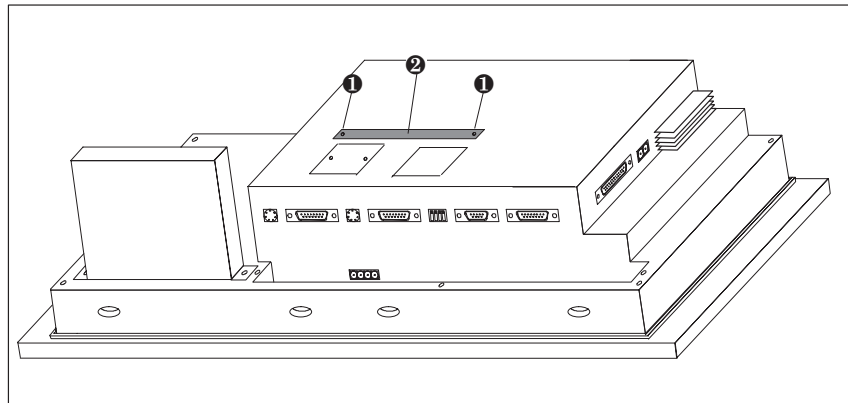

Figure 18-1 Remove the cover
2. Remove the two screws ❶ and then remove the cover ❷ indicated in Figure 18-1 from the rear panel of the OP. Return the screws to the same position in the housing.
3. Insert the AT expansion slot using the plug-and-socket device into the socket located under the cover ❷ in Figure 18-1.